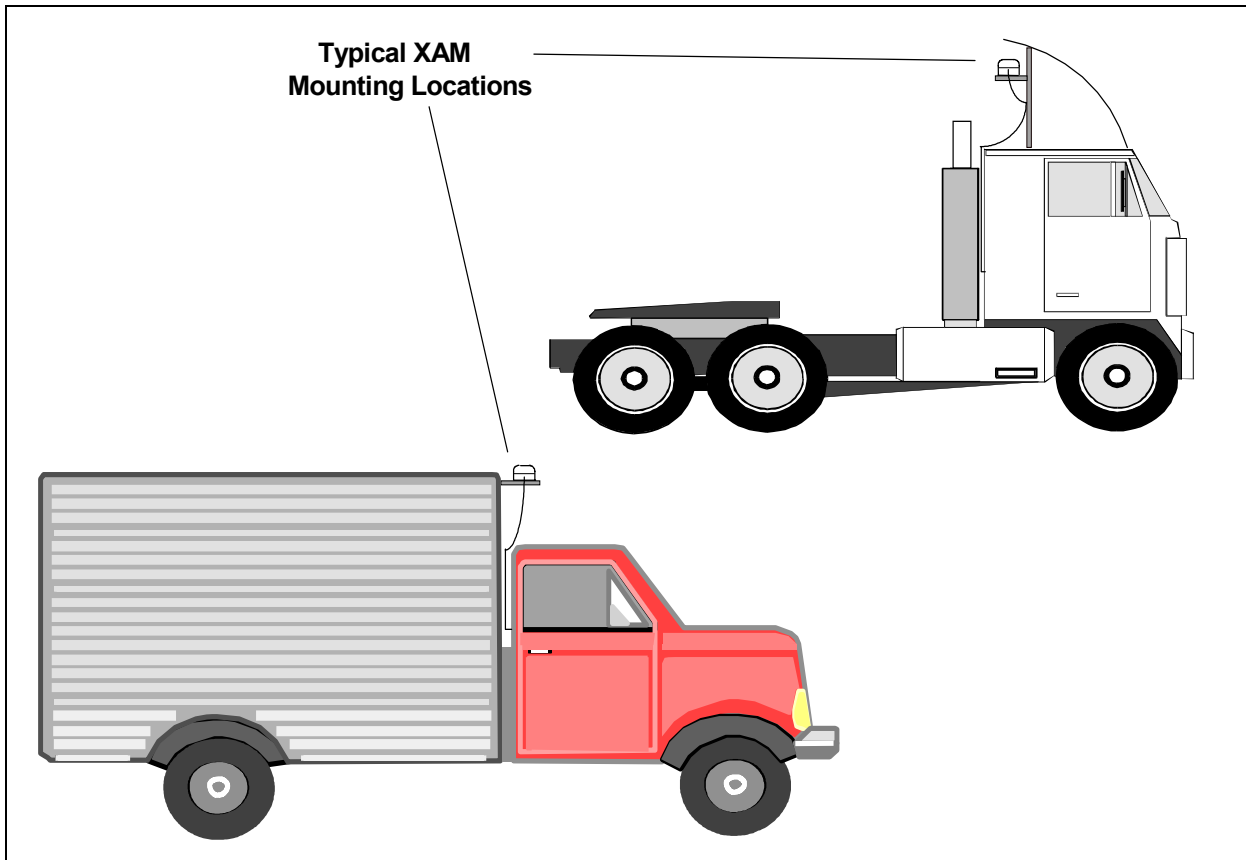

Figure 1. Typical XAM Mounting Location on Straight Truck and Tractor
1. The XAM must be mounted above any large metal surfaces. If the vehicle has a non-metal fairing, you can mount the XAM on a bracket that attaches the fairing to the cab, or you can mount the XAM to the cab. Optional mounting brackets may be purchased from XATA. Figure 1 shows two typical mounting locations.